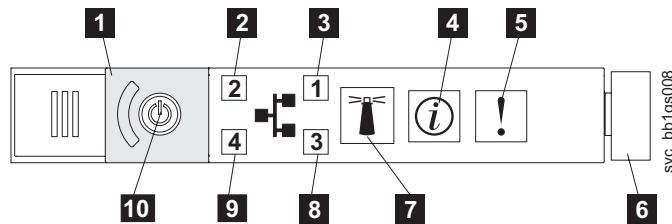

Figure 92. SAN Volume Controller 2145-CG8 or 2145-CF8 operator-information panel
- Is the Error LED, shown in Figure 92, on the SAN Volume Controller 2145-CF8 operator-information panel on or flashing?